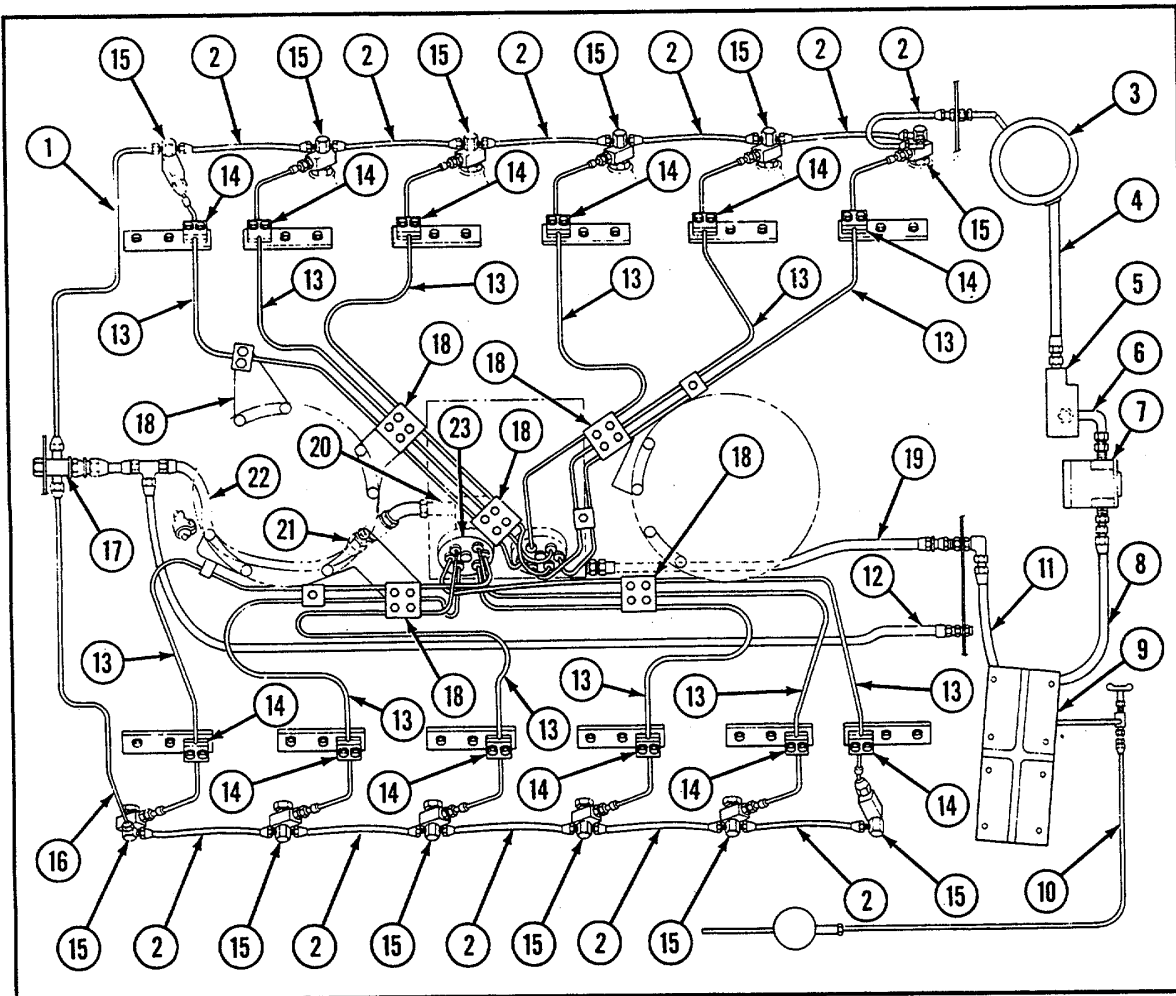

Figure 1-7. Fuel Supply System.
The following callouts are found in Figure 1-7.
The purge pump line connects to a fuel check and pressure relief valve (14) and pressure regulator valve (see item 20, Figure 1-7) in the engine. The fuel check and pressure relief valve prevents purged fuel from returning to the tank or to the purge inlet line.